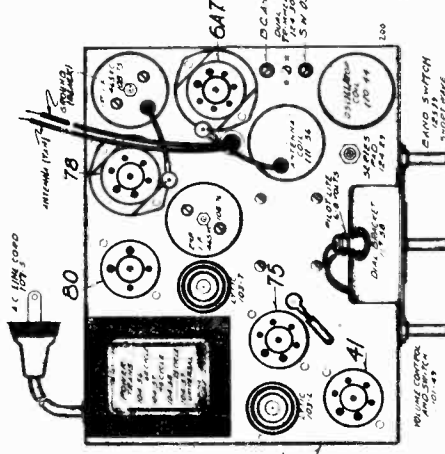

FIG. 1—TOP VIEW
- Set external oscillator to 1550 K.C., rotate variable gang condenser and pick up signal. Adjust broadcast antenna trimmer to resonance. This adjustment is marked "B.C. Ant." (See top view of chassis, Fig. 1, for location of this adjustment)
- Re-set external oscillator to 600 K.C. and adjust broadcast series pad to resonance by rotating condenser to approximately 600 K.C., rocking it slowly to and fro until, by adjusting series pad, maximum output is attained. This adjustment is located on the top of the chassis directly in front of the antenna coil. (See top view of chassis, Fig. 1).
- Set external oscillator to 6.6 megacycles and adjust short wave oscillator trimmer to resonance. This adjustment is marked "S.W. Osc." (see top view of chassis, Fig. 1, for location of this adjustment).